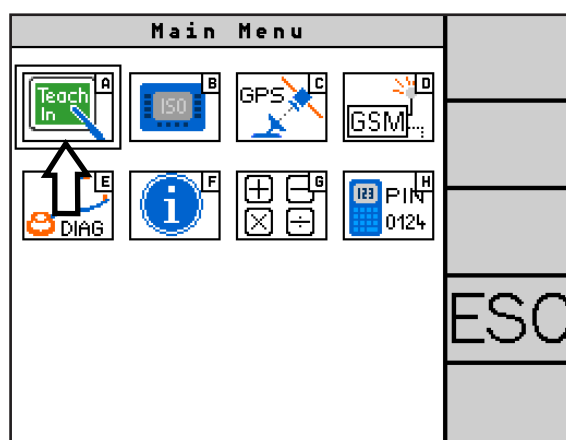

Fig. 48: Accessing the teach menu
Select the “Teach-In” icon (A) in the main menu (see Fig. 48) to call up the teach menu.